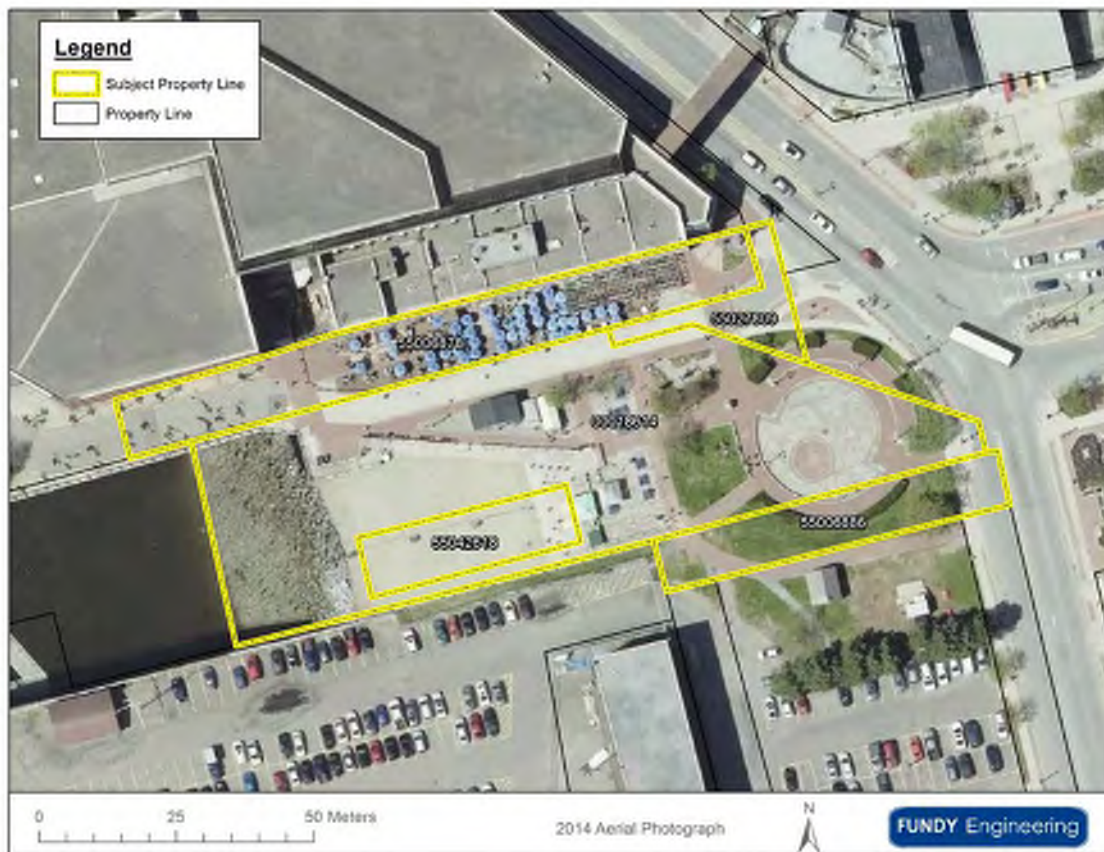

Figure 1 - Property Boundaries and PIDs
The subject property is the location of Loyalist Plaza on Market Wharf Street in Saint John, NB. This plaza's footprint is made up of five (5) separate PID numbers (Figure 1). The properties are identified by Service New Brunswick as PID numbers 55006878, 55027809, 00018614, 55042618, and 55006886. The registered owners of the various PIDs are: